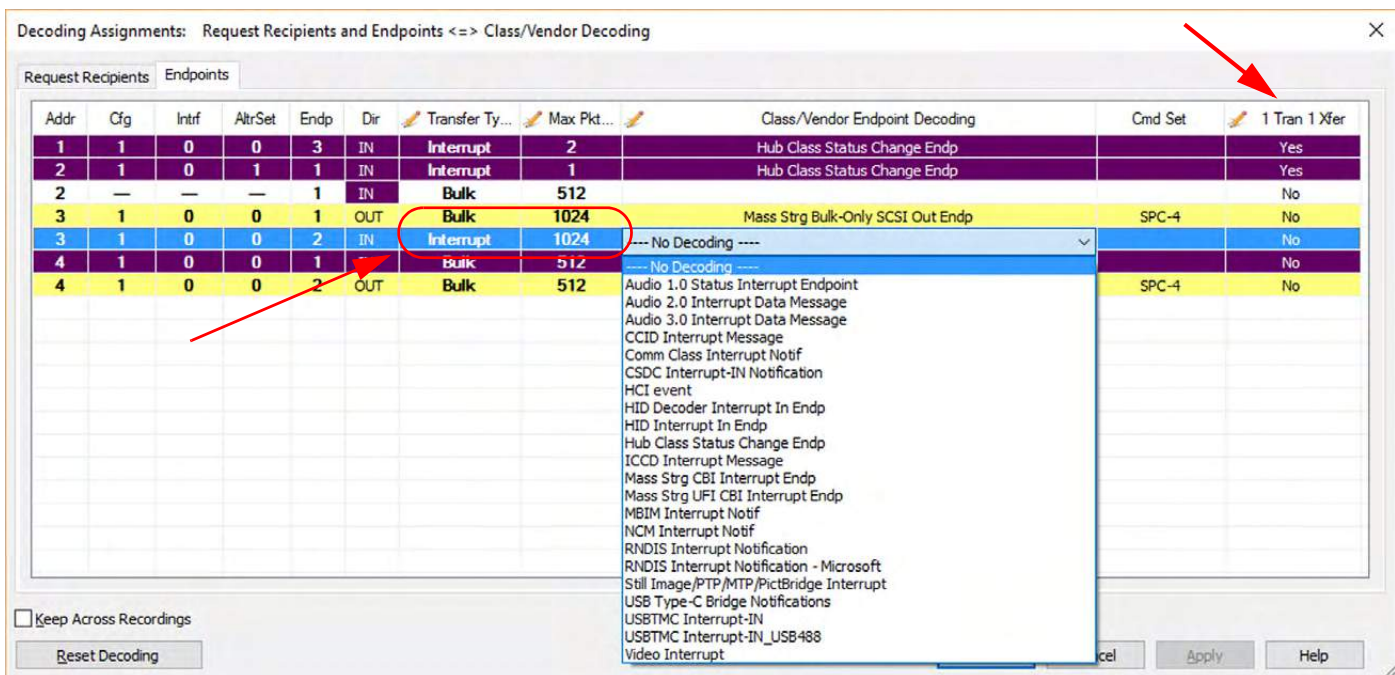

Figure 9.7: 1 Tran 1 Xfer column -> HID Interrupt In Endpoint Decoding
10. Display the **Class/Vendor Endpoint Decoding** drop-down menu for Interrupt IN transfers (see Figure 9.7):
or Isochronous transfers] transfer collection uses a simple rule of “1 transaction 1 transfer”. When this option is set as “yes”, any transaction at selected endpoint will make a transfer level packet which could be decoded by transfer level scripts. In particular, streams of Isochronous data can be decoded MUCH more quickly if this rule is selected. To select this model of transfer, use the “1 Tran 1 Xfer” column to select it (see Figure 9.7 on page 405).